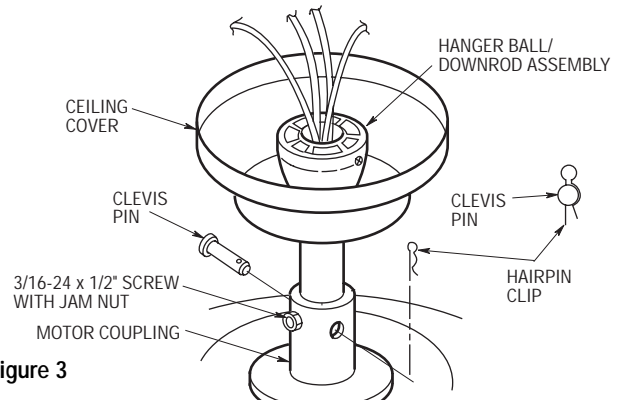

Figure 3
- 5. Remove the upper setscrew from the motor coupling. Align the clevis pin holes in the downrod with the holes in the motor coupling. Install the clevis pin and secure with the hairpin clip (Figure 3). The clevis pin must go through the holes in the motor coupling and the holes in the downrod. Be sure to push the straight leg of the hairpin clip through the hole near the end of the clevis pin until the curved portion of the hairpin clip snaps around the clevis pin. The hairpin clip must be properly installed to prevent the clevis pin from working loose. Pull on the hanger ball to make sure the clevis pin is properly installed.
- 6. Install the 3/16-24 x 1/2" screw with jam nut (supplied) in the motor coupling (Figure 3). While pulling up on the hanger ball, securely tighten the setscrew. Then securely tighten the nut against the motor coupling.